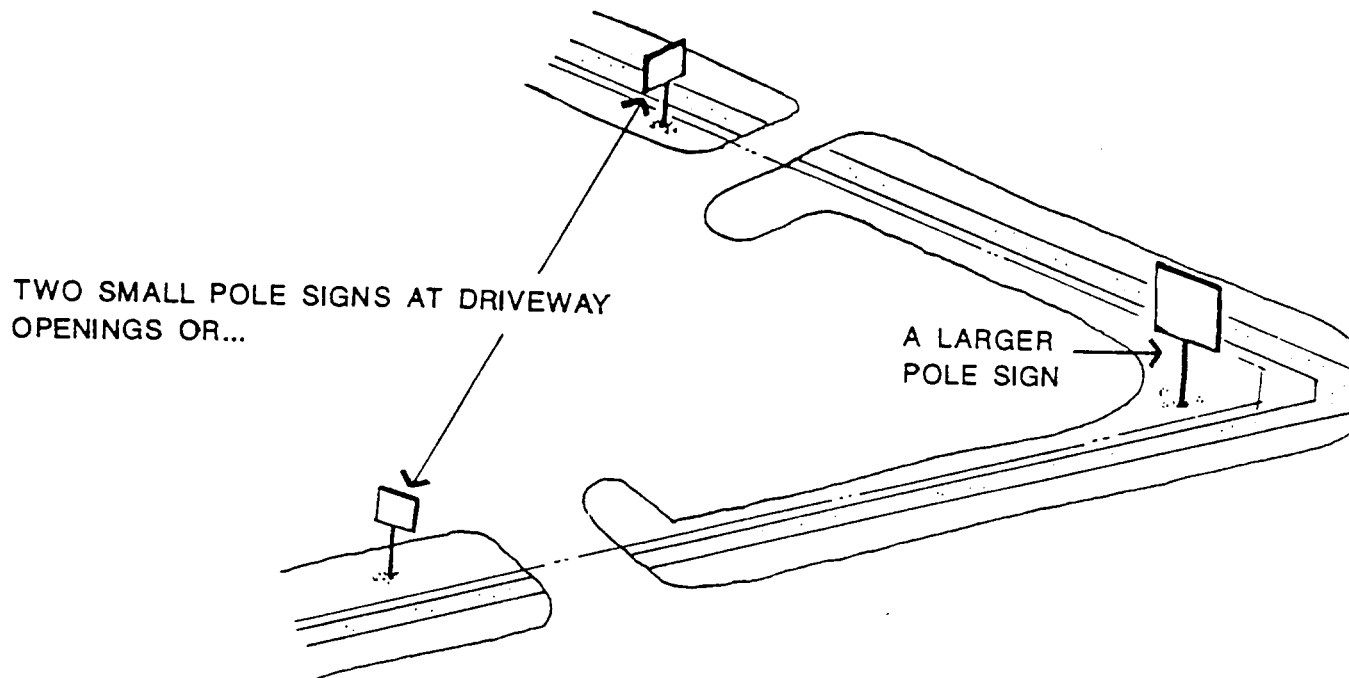

FIGURE 22
3. One pole mounted sign at the intersection, but clearly out of the line of sight as defined by the Thoroughfare Standards Ordinance (see Figure 22).